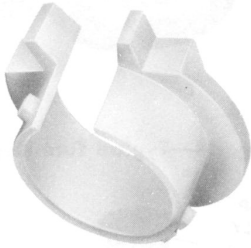
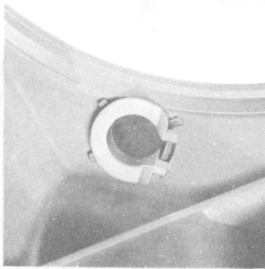

Fig. 16—P-14E582 Retainer Ring
Fig. 17—Retainer Ring Mounted in Set Housing
Note: To prevent pilferage of the lamp cap assembly a P-14E582 retainer ring (Fig. 16) may be installed. Order separately. Install ring by pressing two tabs together and inserting into the lamp cap slots (Fig. 17). This prevents normal rotation and removal of the lamp cap.
- 500W/Y and 514B telephone sets can be equipped with P-14E582 retainer ring (Fig. 16) to prevent pilferage of the lamp cap assembly.
- (1) Remove set housing with lamp cap in place.
- (2) Press two tabs of retainer ring together.
- (3) Insert retainer ring into lamp cap so that retainer ring engaging pins fit into lamp cap slots (Fig. 17).
- (4) This prevents normal rotation and removal of the lamp cap.